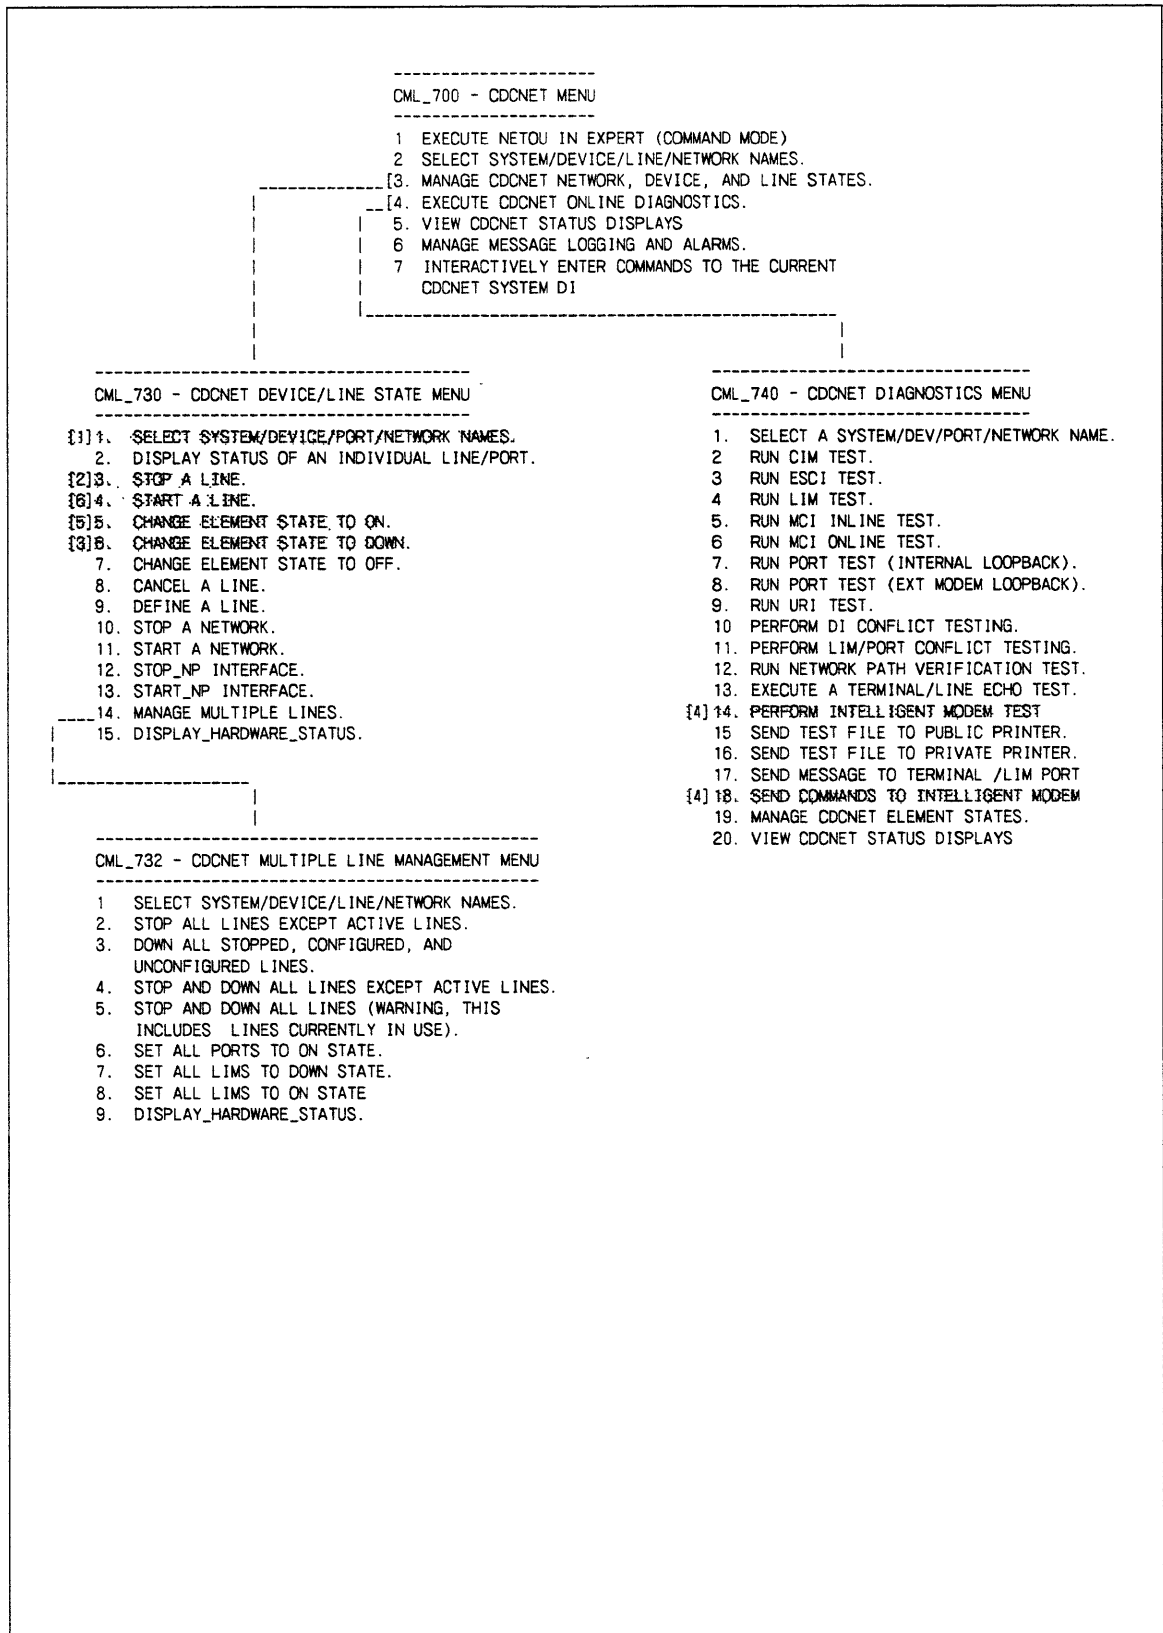

Figure 6-40. CML/VE Menus for Testing Intelligent Modem
The following shows the CML/VE menu choices necessary to test or send commands to an intelligent modem. Each menu choice is shown on figure 6-40 and described below. The purpose of this topic is to serve as a quick reference for the most frequently used menu selections. See chapter 4 for a complete description of CML/VE. Familiarize yourself with the test notes and procedure given earlier in this topic before running the test.
- Numbers in this column correspond to the bracketed numbers (for example, [1]) on figure 6-40.